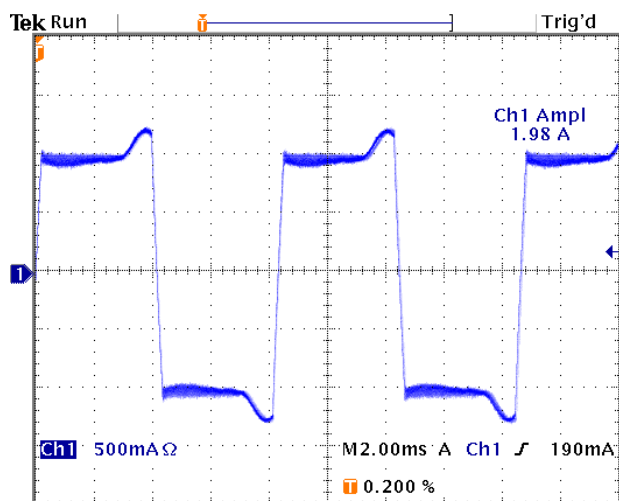
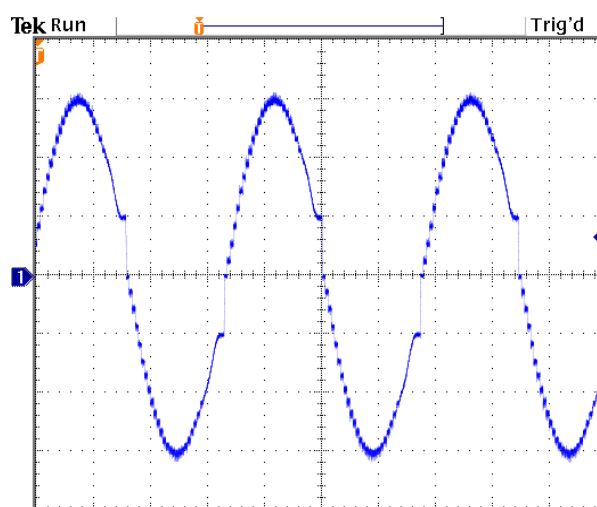
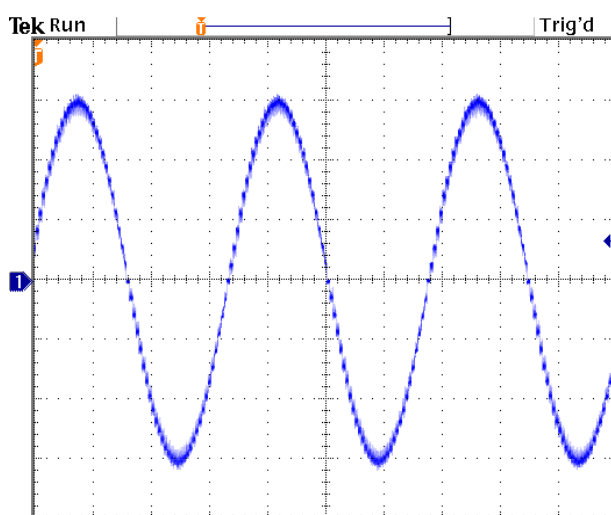

Figure 13: Full Step Mode,  $T_j = 65^\circ\text{C}$
Figure 16: Sixteenth Step mode,  $T_j = 68^\circ\text{C}$
Figure 17: Sixteenth Step mode, mixed decay ( $V_{MTH} = 0.4\text{V}$ ),  $T_j = 86^\circ\text{C}$
The plot in Figure 17 confirms again that in this application the MTH voltage = 0.4V is an optimum value because it removes the current distortion seen in Figure 16 and yields in better sine wave approximation again with the trade-off with higher temperature.
**Figure 13 to Figure 17: Continuous spin with 144 rpm, 24V supply, slow decay mode**